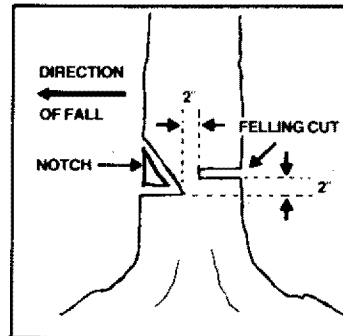

Figure 18
- a. Make the notch cut. Figure 18.